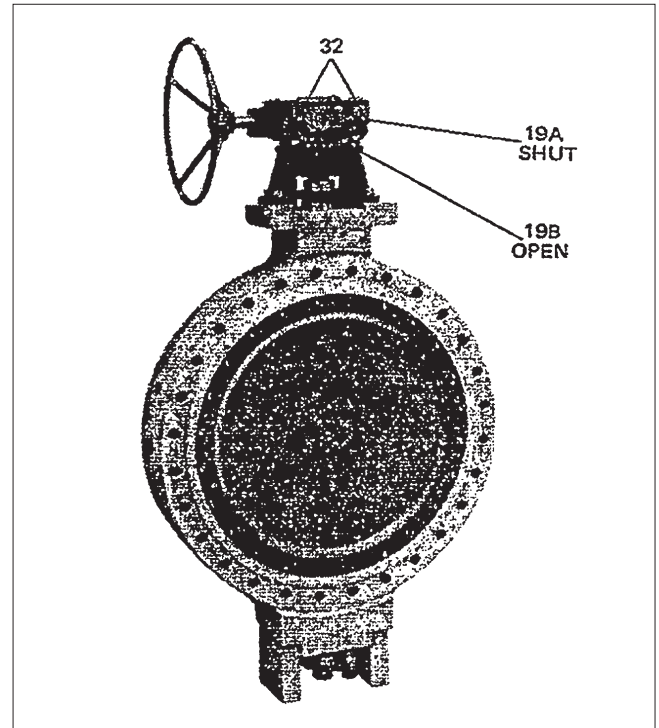

Figure 6.
7.5 SETTING STOPS ON MA MANUAL GEAR ACTUATOR (FIG. 6)